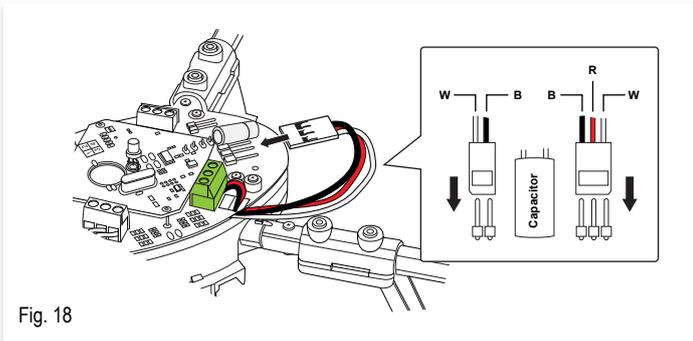

Fig. 18
1. Connect the PPM receiver cable (10) to the 3-pin header connector located on the upper main flight control circuit board of the »Xtreme. GROUND PIN (black) faces the capacitor, POSITIVE PIN (red) is in centre and the SIGNAL PIN (white) is facing the motor connector and boom. See [Fig. 18]. Note the following colour codes:
- » To best route the wire, make use of the gap near the motor wire socket as shown in [\[Fig. 18\]](#).